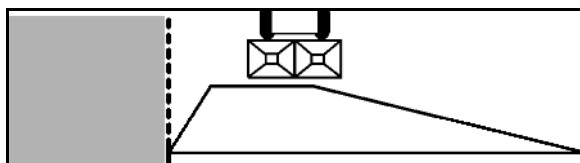

Fig. 58
1. Boundary spreading in accordance with fertiliser ordinance (Fig. 58):